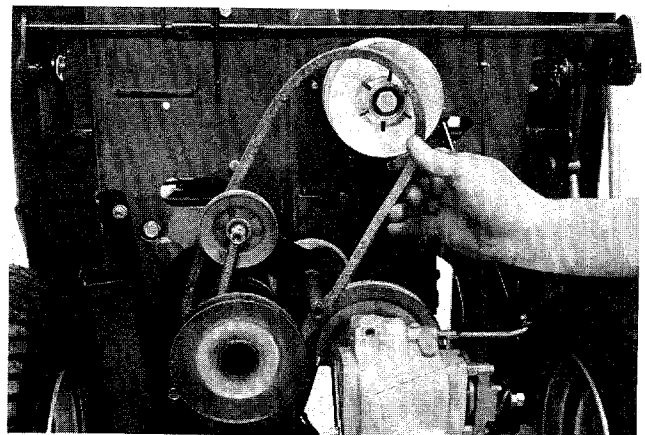

FIGURE 36.
11. Remove and replace the "V"-belt. See figure 36.